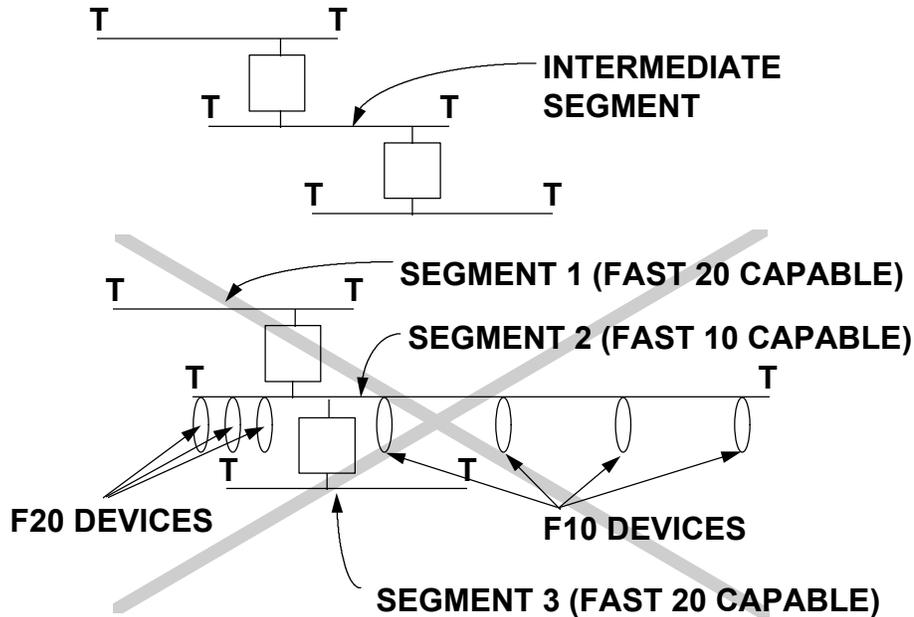

Figure 10 - Intermediate segments and performance ranking
2. Any segment between two other segments shall support the highest performance level that can be negotiated between the two other segments. For example two wide LVD Fast 40 segments must not be separated by a segment that does not support both wide and Fast 40. See Table 4 for definition of increasing performance levels. See Figure 10 for examples.
Configurations may exist where it may appear that Rule 2 is satisfied but that actually violates Rule 1. An example of such a configuration is shown in Figure 10.
The configuration in Figure 10 is valid only if the data phase rate is limited to fast-10 for any data phase transactions between segment 1 and segment 2, segment 2 and segment 3 or segment 1 and segment 3. Even though the fast-20 devices in segment 2 are located close to the expanders and the distance between the expanders is small, the segment length is defined by the distance between the terminators - not by the distance to the expander connection or to the devices. The intermediate segment is therefore not fast-20 capable and may not be used for fast-20 transactions between segment 1 and segment 3. (Segment 2 is also not to be used for fast-20 transactions within segment 2.) Fast-20 transactions are allowed between devices in segment 1 or between devices in segment 3.